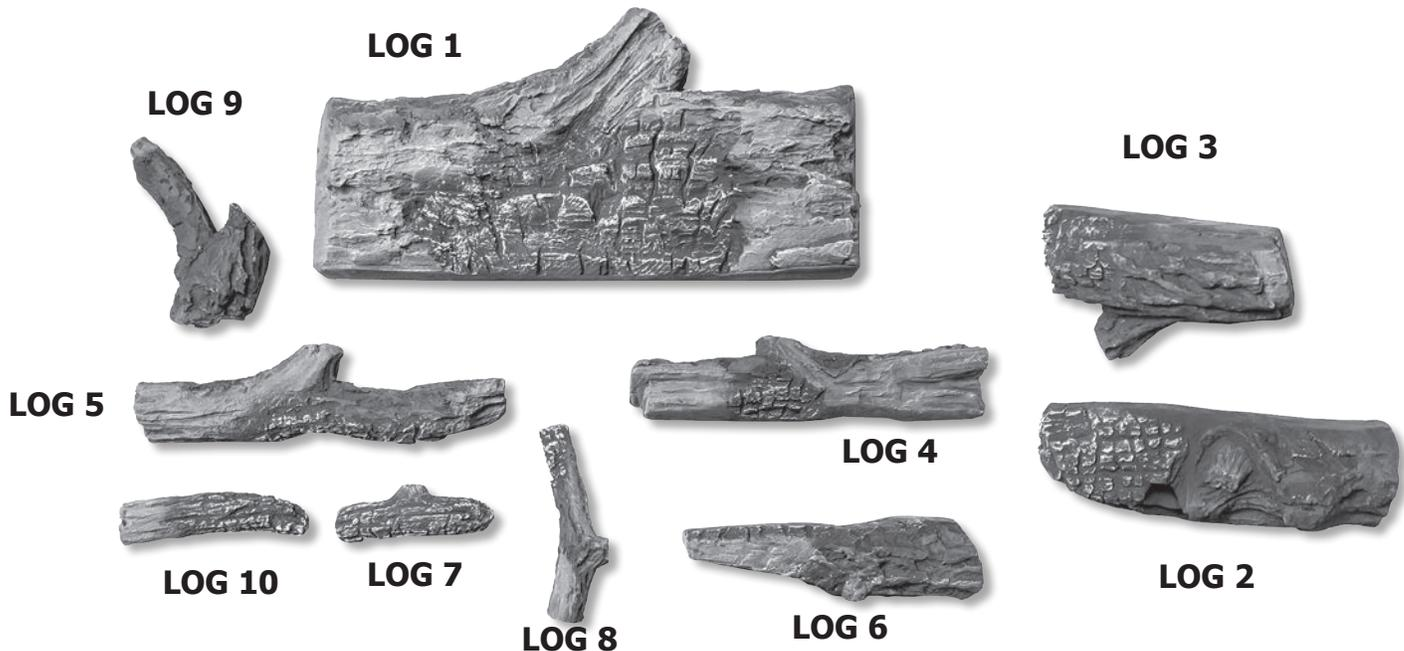

**Figure 32: Baffle Installation**
**Step 4.** Install the stainless steel top baffle supplied with the fireplace using the four (4) retaining T-20 screws (see Figure 32)